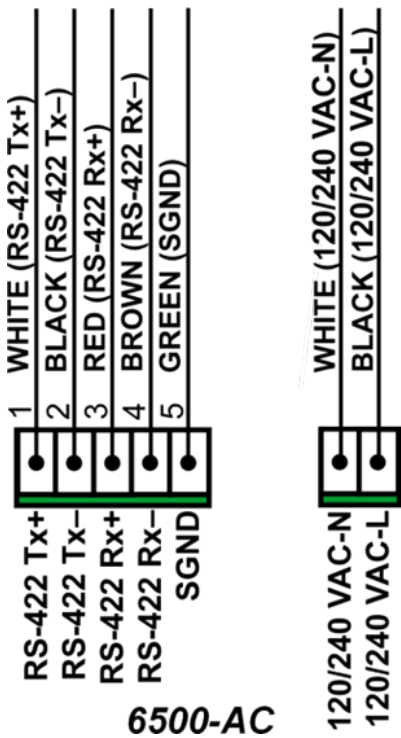

Figure 8. Summary of Model 6500-AC Connections
1. Connect the power and signal wires to the terminal blocks inside the enclosure according to Figure 8.